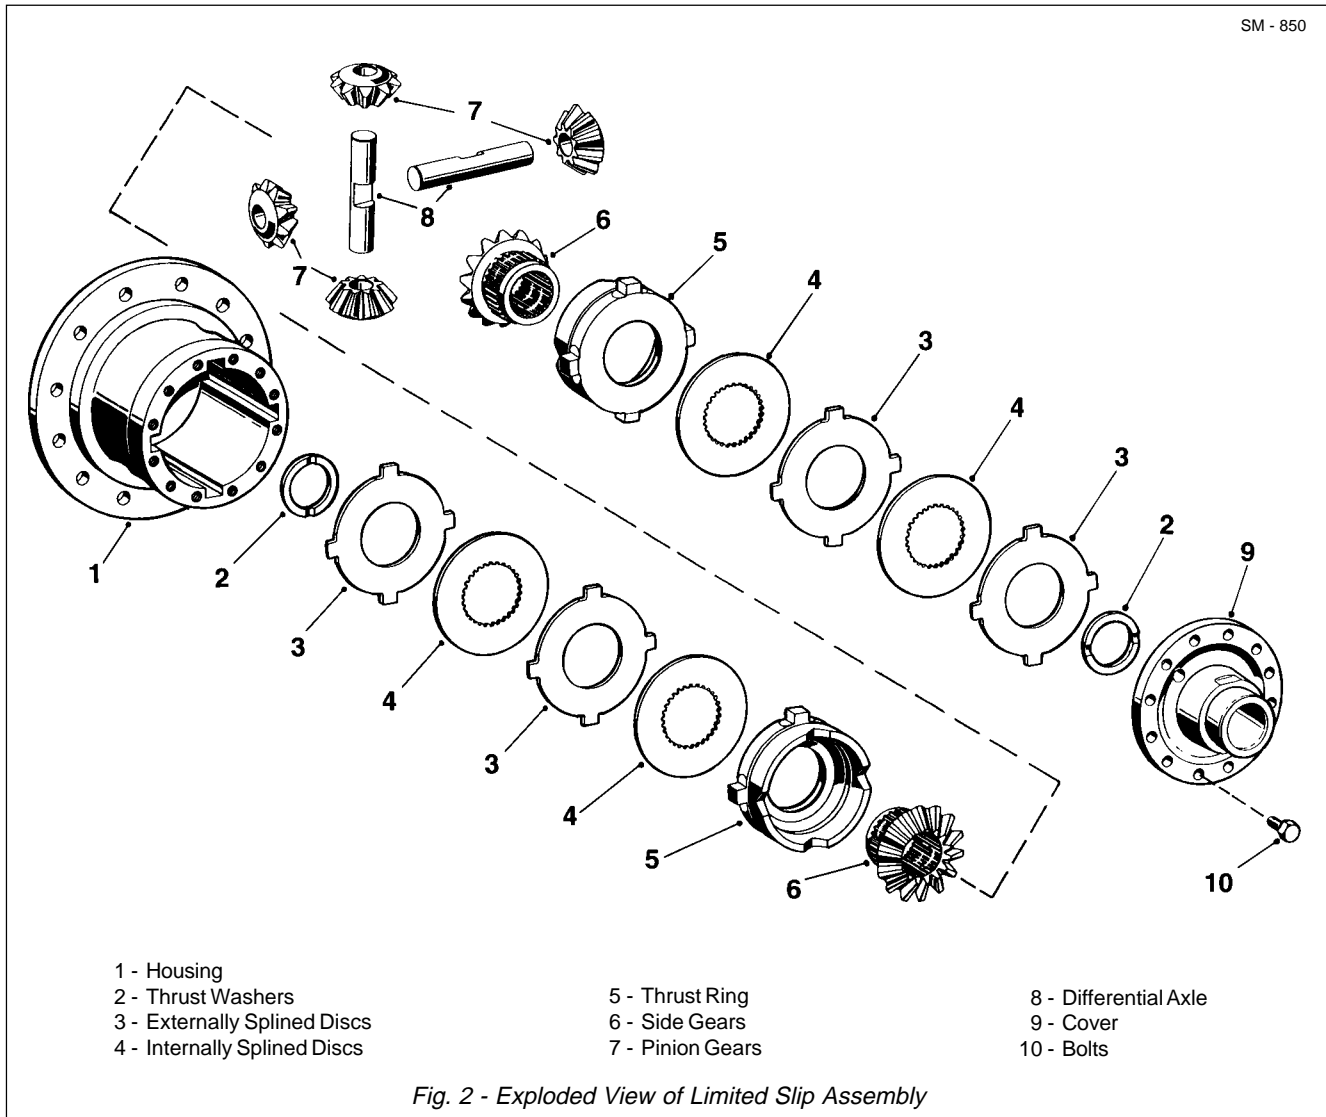

Fig. 2 - Exploded View of Limited Slip Assembly
50. Place cover (3, Fig. 2) on housing (11, Fig. 2), cover threads of bolts (1, Fig. 2) with Loctite 270 and fasten cover and housing together as shown in Fig. 57. Tighten bolts (1, Fig. 2) to a torque of 110 Nm (82 lbf ft).
Numbers in parentheses refer to Fig. 2.
Numbers in parentheses refer to Fig. 2, unless otherwise specified.